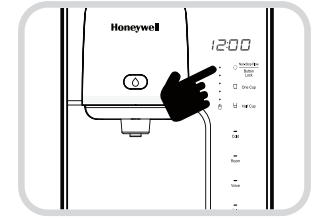

Fig. 7
- Press the Non-Stop Flow/Button Lock button for three (3) seconds in the Waiting Status to select the Button Lock. The Voice Guide will say "selecting button lock" "button lock selected". (Fig. 7).
- To release the Button Lock, press the Non-Stop Flow/Button Lock button for three (3) seconds in the Button Lock status and the word "Un_Loc_" will be displayed.